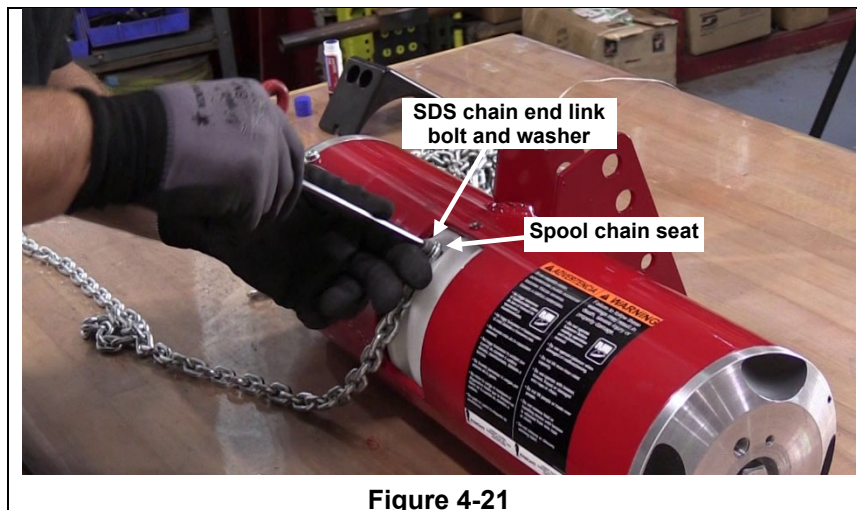

Figure 4-21
Step 15. Align the new SDS chain end link into the spool chain seat and reinstall MG-1 end link bolt and washer into the chain and spool and tighten until snug. (See Figure 4-21)